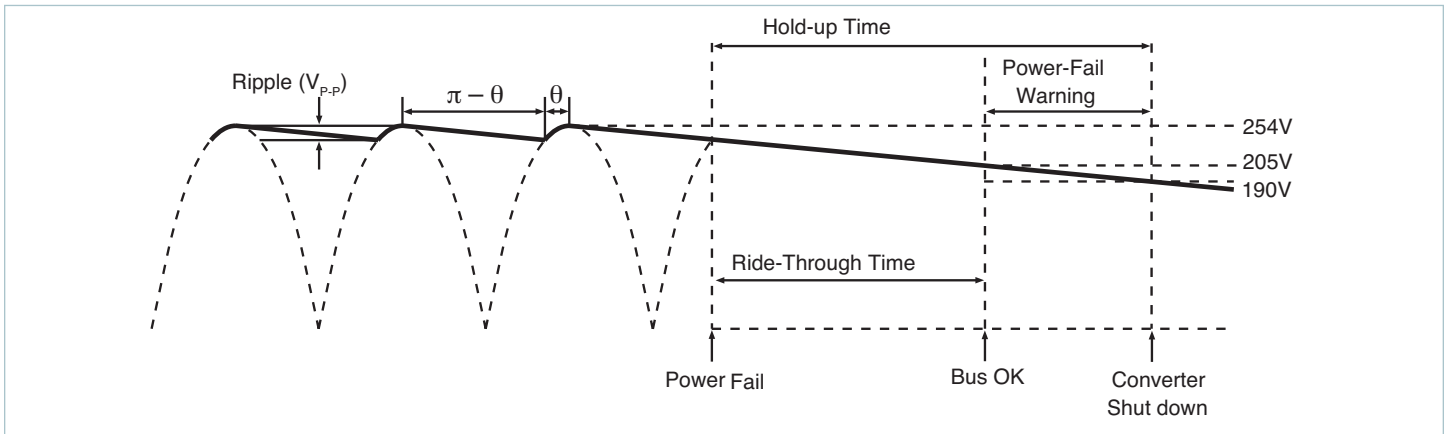
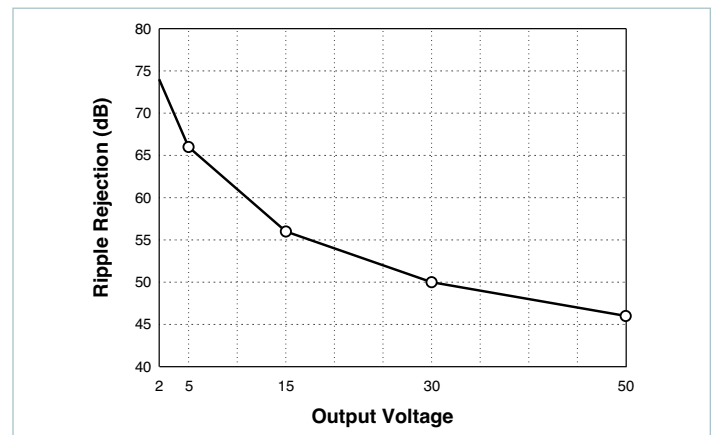

Figure 7.7 — General timing diagram of bus voltage following interruption of the AC mains
Figure 7.11 — Converter ripple rejection vs. output voltage (typical)
Hold-up Capacitors: Hold-up capacitor values should be determined according to output bus voltage ripple, power-fail hold-up time, and ride-through time. (Figure 7.7) Many applications require the power supply to maintain output regulation during a momentary power failure of specified duration, i.e., the converters must hold up or ride through such an event while maintaining undisturbed output voltage regulation. Similarly, many of these same systems require notification of an impending power failure to allow time to perform an orderly shutdown.
The power-fail warning time (Δt) is defined as the interval between (BOK) and converter shutdown (EN) as illustrated in Figure 7.7. The Bus OK and Enable thresholds are 205V and 190V, respectively. A simplified relationship between power fail warning time, operating power, and bus capacitance is obtained by inserting these constants:
For example, a converter whose output is 15V and nominal input is 300V will provide typically 56dB ripple rejection, i.e., 10V_{P-P} of input ripple will produce 15mV_{P-P} of output ripple. (Figure 7.11) Equation 3 is again used to determine the required capacitance. In this case, V_1 and V_2 are the instantaneous values of bus voltage at the peaks and valleys (Figure 7.7) of the ripple, respectively. The capacitors must hold up the bus voltage for the time interval (Δt) between peaks of the rectified line as given by:
(Figure 7.7)
Figure 7.11 is used to determine the ripple rejection of the DC-DC converter and indicates a ripple rejection of approximately 60dB for a 12V output. If the ripple on the bus voltage is 12V_{AC} and the ripple rejection of the converter is 60dB, the output ripple of the converter due to ripple on its input (primarily 120Hz) will be 12mV_{P-P}.